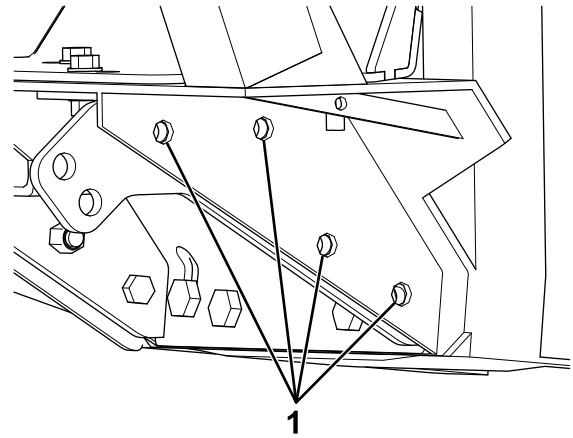

Figure 5
- Drill the existing holes on the vehicle frame shown in Figure 5 larger using a 7/16-inch drill bit.